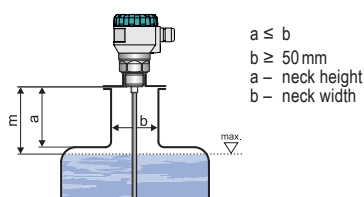

Fig. 5: Level meter installation in the input neck
- For correct measurement, it is important to avoid installing the level meter in a high input neck or high welding flange. If this is not possible, the level meter may be installed in a **short input neck**, the parameters of which are provided in fig. 5. Here it applies that the neck diameter selected should be as large as possible but the neck height should be as small as possible.